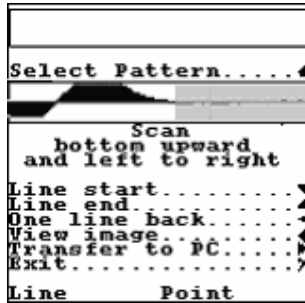

Fig. 69
10. After setting the analysis zone press the **X** button. The device enters the scanning submode (Fig. 69) and is ready to scan the ruled rectangular area of the object under test. The start scanning line is the extreme left line. The scanning is performed from the operator, along each marked line.